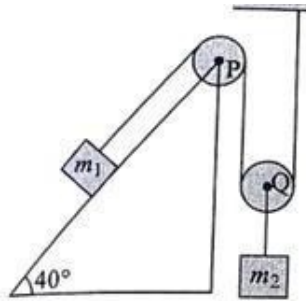

Figure 6: 7B
- (b) Determine the tension in the inextensible string of the system as shown in **fig 6** while $m_1 = 200 \text{ Kg}$ and $m_2 = 100 \text{ Kg}$. Consider the pulley as massless and coefficient of friction as 0.2 . [7m]
9. (a) Determine the period of vibration of a weight P attached to springs of stiffness k_1 and k_2 in two different cases as shown in **fig 6** [7m]